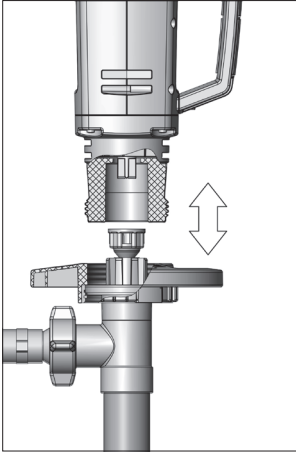

Fig. 6: Mount the motor on the pump tube
- ▶ Firmly connect the motor and pump tube by means of the handwheel (right-hand thread) (→ Fig. 6).
- ▶ B3 Battery: Turn the handwheel up (→ Fig. 6).